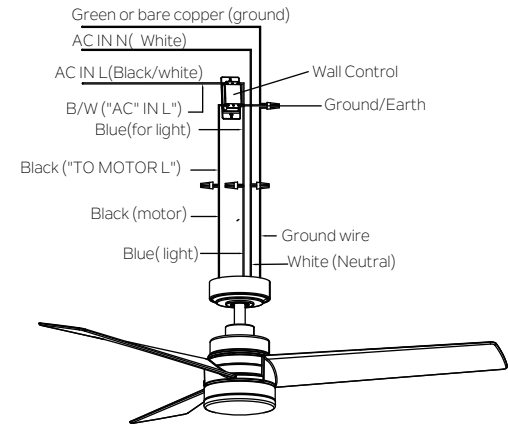

Fig. 12
- Step 1.** Connect the BLACK wire from the fan to BLACK wire marked "TO MOTOR L" from the wall control. (Fig.12)
- Step 2.** Connect the BLUE wire from the fan to BLUE wire marked "FOR LIGHT" from the wall control.(Fig.12)
- Step 3.** Connect the WHITE wire from the fan to the household neutral WHITE wire.(Fig. 12)
- Step 4.** Connect the BLACK with WHITE stripes wire marked "AC IN L" from the wall control to the household BLACK/WHITE supply wire.(Fig. 12)
- Step 5.** Connect GROUND(GREEN) wires from mounting bracket and downrod ball and wall control, to GROUND(GREEN) or BARE(COPPER) wire from house.(Fig.12)
- Step 6.** Secure the wire connection with plastic connectors provided. After connecting the wires, spread them apart so that the green and white wires are on one side of the outlet box. black and white stripes wire and blue wire are on the other side. (Fig. 12)